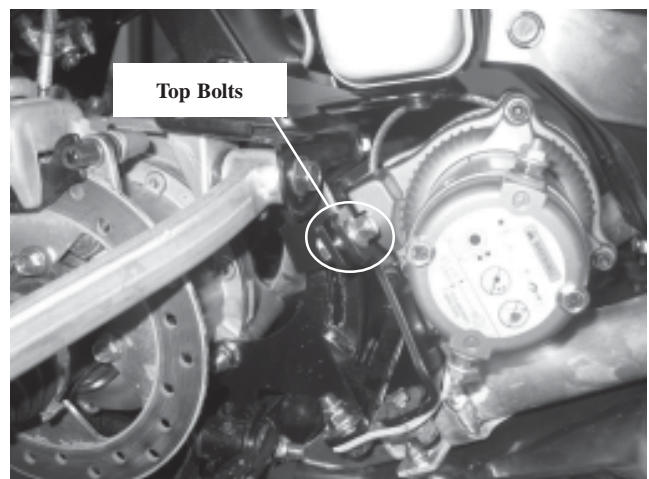

Figure 6
5. Assemble clamp bracket (A2) to mounting bracket (A1). Clamp bracket (A2) will wrap around ATV frame and secure to mounting bracket (A1). Attach clamp bracket (A2) to mounting bracket (A1) using 2, 5/16 - 18 x 1" hex head bolts (B5), 2, 5/16 flat washers (B1) and 2, 5/16 - 18 lock nuts (B3). See Figure 6.